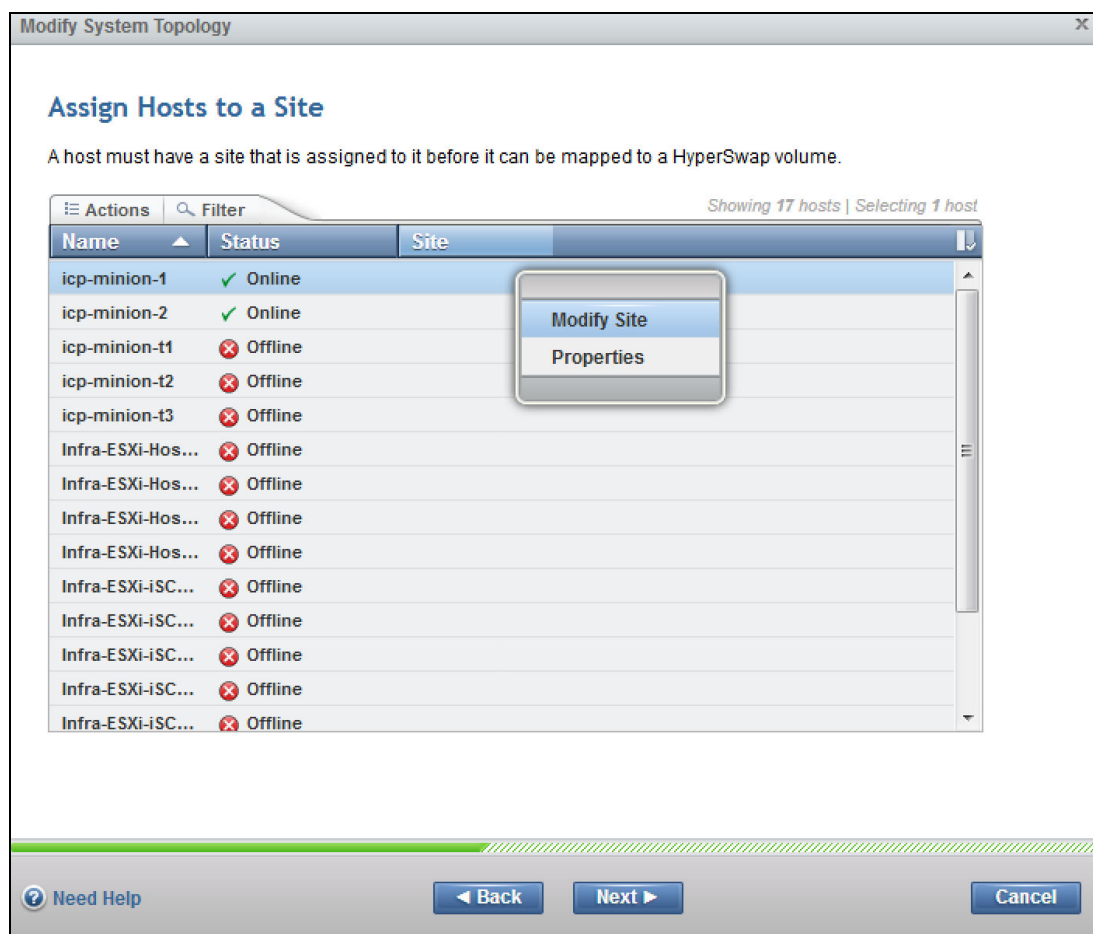

Figure 4-37 Adding a Host to the site
4. Add a Host to the site in a HyperSwap configuration, as shown in Figure 4-37. Hosts need to be mapped to a site before HyperSwap volumes can be mapped to them.